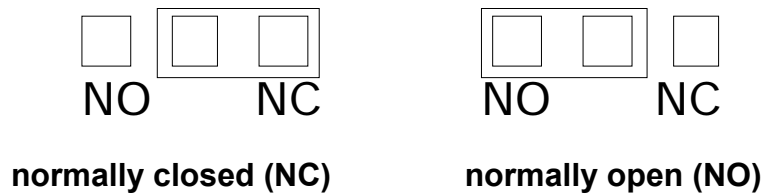

Figure 6. Auxiliary Connections
You can define each relay as Normally Open (NO) or Normally Closed (NC) by setting the jumpers as illustrated in Figure 6.